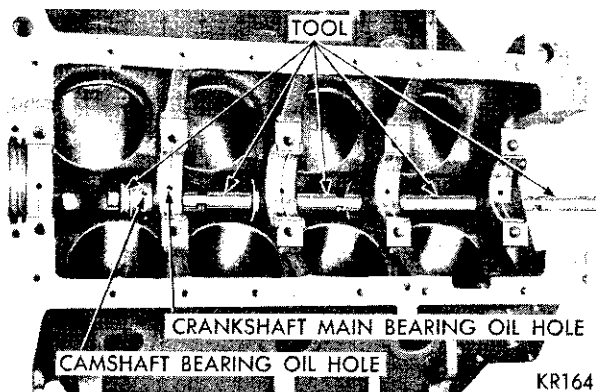

Fig. 30—Removing Camshaft Bearing
(1) With engine completely disassembled drive out camshaft rear bearing welch plug.
(2) Install proper size adapters and horse shoe washers (part of Tool C-3132A) at the back of each bearing to be removed and drive out bearings (Fig. 30).
The oil holes in camshaft bearings and the cylinder block must be in exact register to insure proper lubrication (Fig. 30).